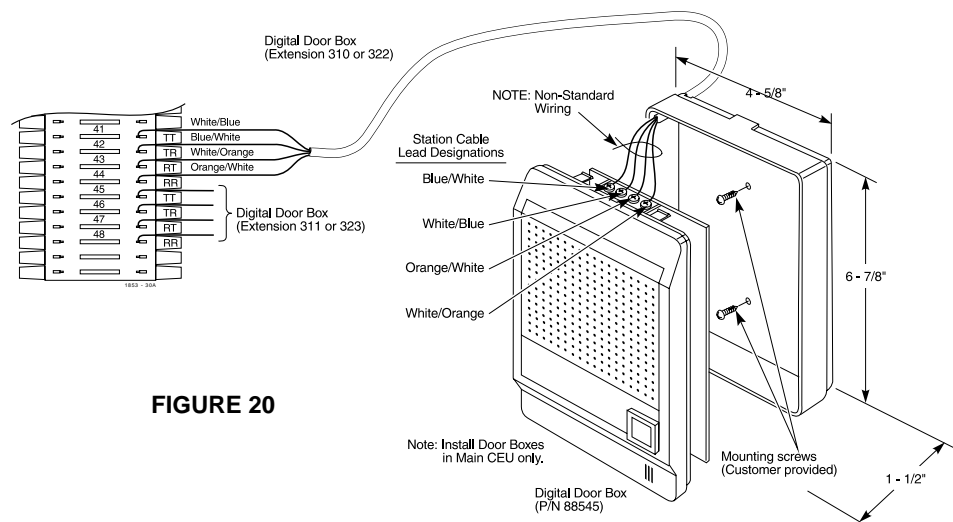

FIGURE 20
4. Strip the free conductors back about 1/2 inch and connect to the Door Box terminals as shown in Figure 20.